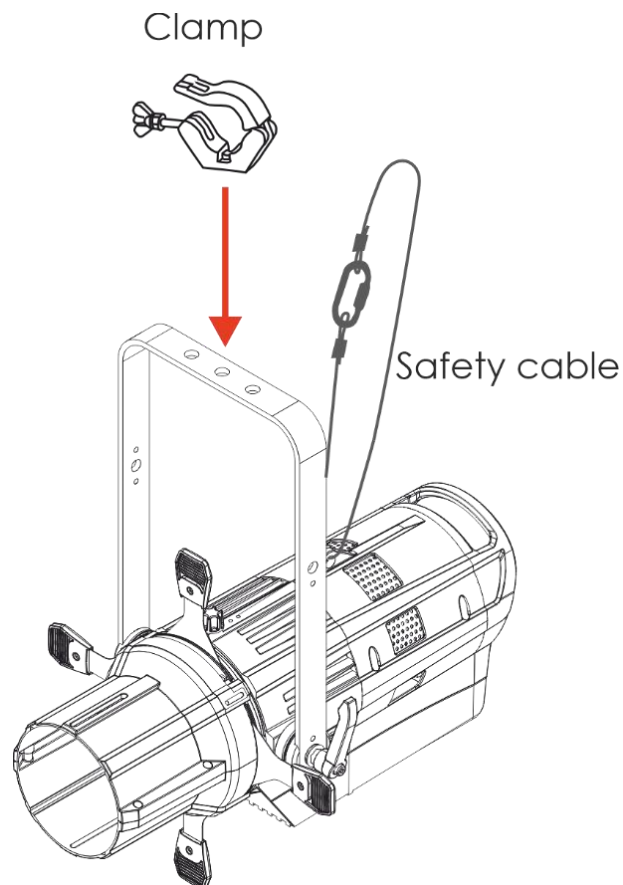

Fig. 06
- 01) Use a clamp to attach the device to the supporting structure, as shown in Fig. 06. Make sure that the device cannot move freely.
- 02) Secure the device with a secondary suspension, for example a safety cable. Make sure that the secondary suspension can hold 10 times the weight of the device. If possible, the secondary suspension should be attached to a supporting structure independent of the primary suspension. Put the safety cable through one of the **safety eyes (02 or 03)**, as shown in Fig. 06.